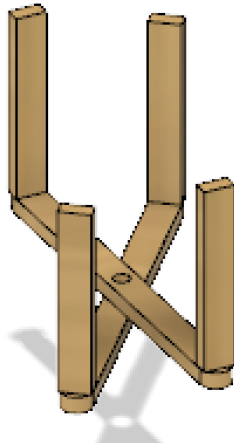

Figure 4: The structure with the rectangular pieces glued onto. The height of rectangular pieces is approximately 56.35 mm
3. Glue each of the rectangular pieces onto one of the four corners of the original tongue depressor cross from step 1. Reinforce glue joints with cardstock and leftover scraps from tongue depressors (Figure 4 in Appendix C).